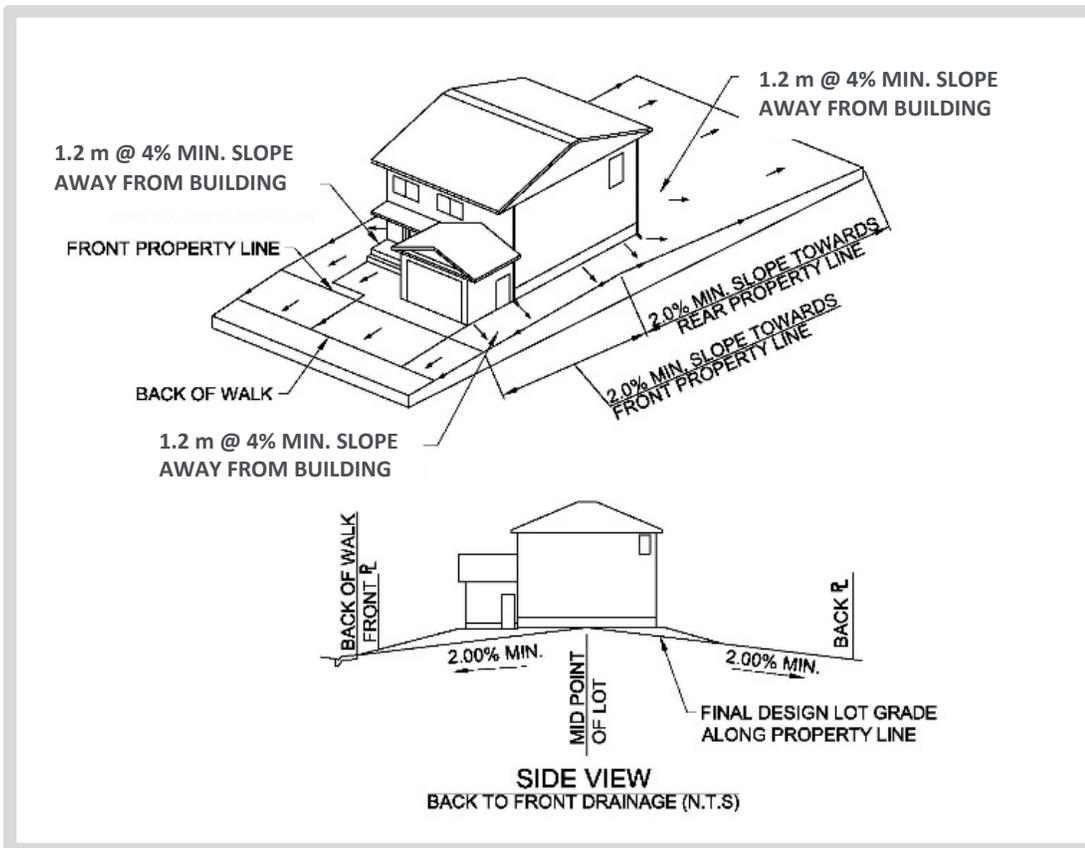

Figure 9 – Split Drainage. Source: The City of Calgary
2. Split (drains to both front and back, (as shown in Figure 9)